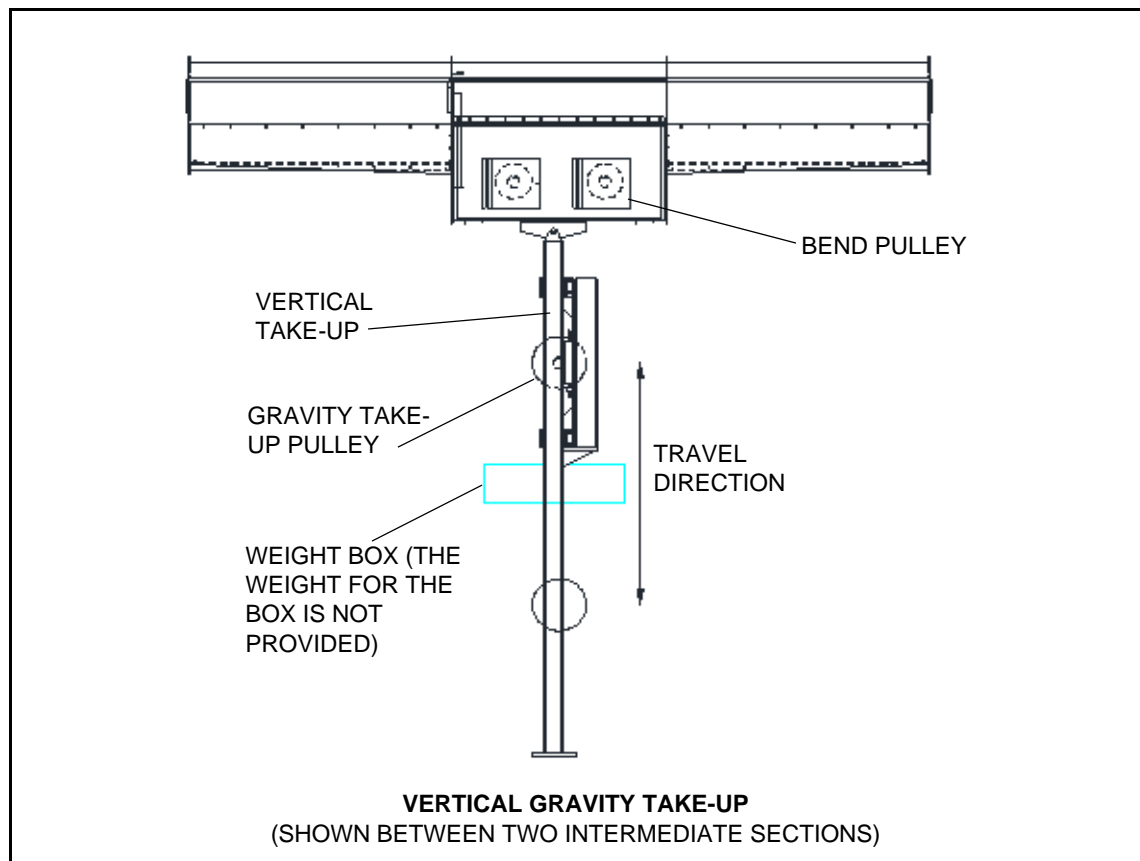

Figure 3.13
1. Install the vertical gravity take-up assembly as illustrated in Figure 3.13. Refer to the general arrangement drawing.